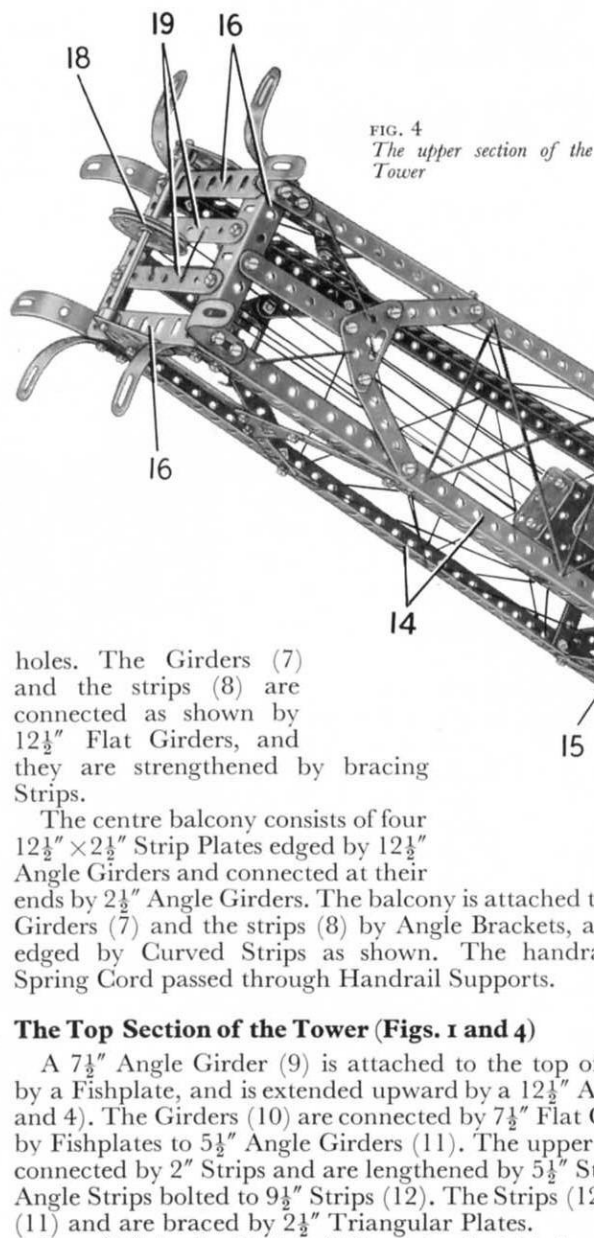
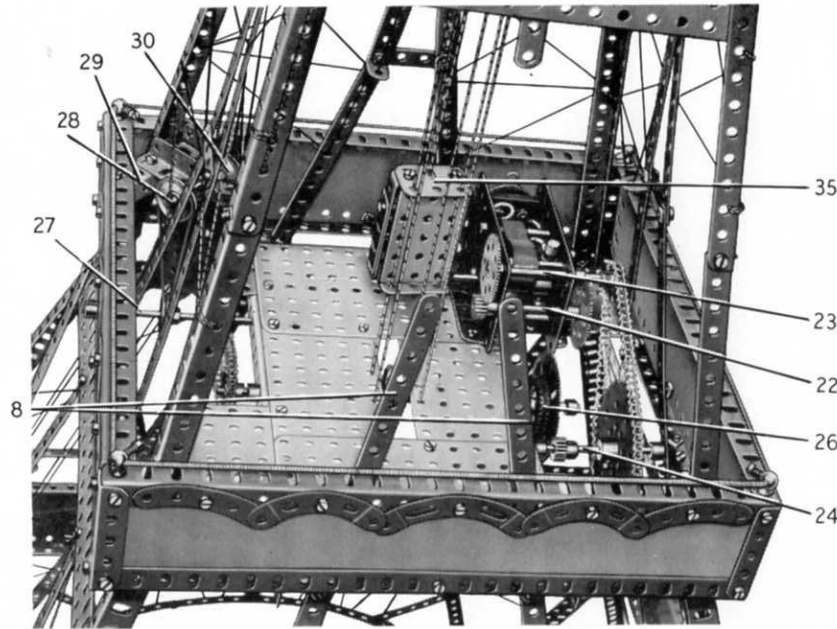
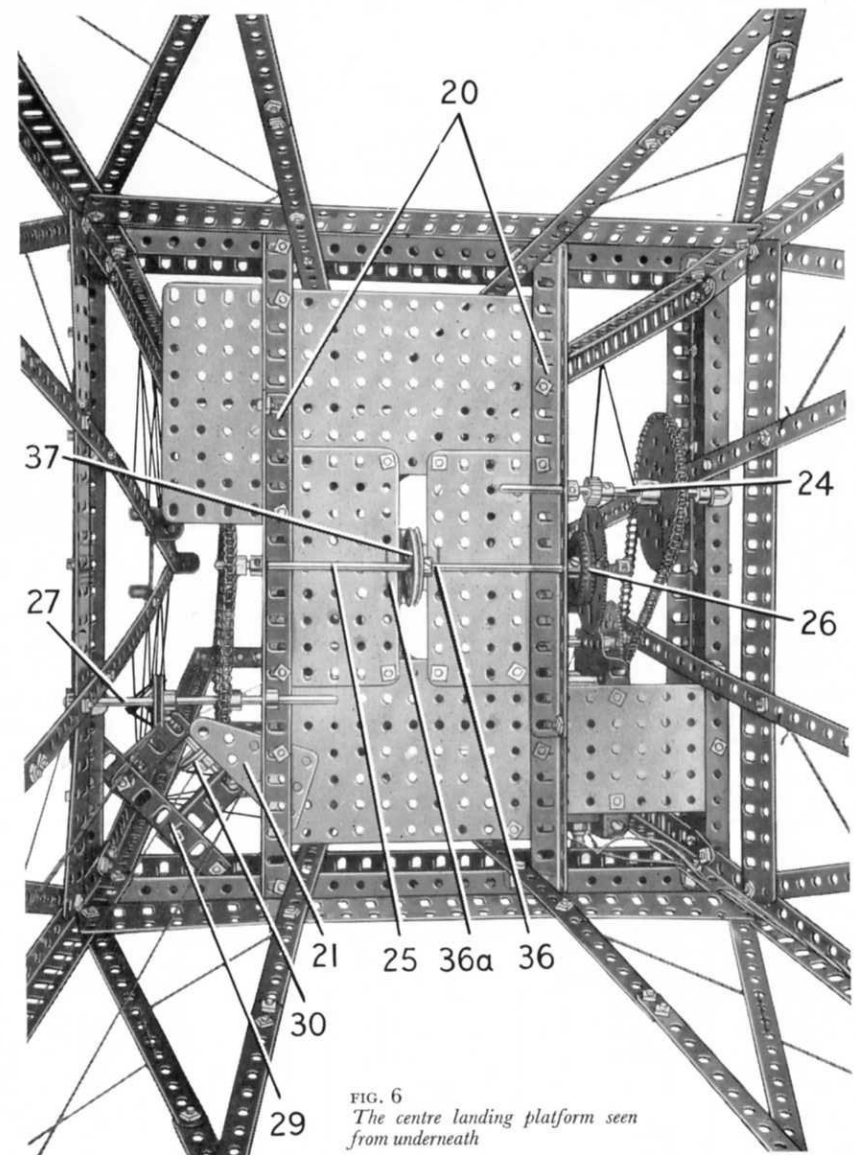

FIG. 4
FIG. 5
FIG. 6
The top balcony consists of four  $4\frac{1}{2} \times 2\frac{1}{2}$ " Flexible Plates each edged by a  $4\frac{1}{2}$ " Strip and a  $4\frac{1}{2}$ " Angle Girder (Fig. 3), and four  $2\frac{1}{2} \times 1\frac{1}{2}$ " Flexible Plates strengthened by  $1\frac{1}{2}$ " Strips and  $1\frac{1}{2}$ " Angle Girders. The  $4\frac{1}{2}$ " and the  $1\frac{1}{2}$ " Angle Girders are bolted together at their ends, and the top corners of the Flexible Plates are connected by Obtuse Angle Brackets. The balcony is supported by eight Formed Slotted Strips fixed to the Girders (16) (Fig. 4).
#### **The Centre Landing Platform and Operating Mechanism (Figs. 5, 6 and 7)**
Two built-up girders (20) (Fig. 6) are bolted underneath the centre balcony and to them are bolted Flat Plates as shown in Figs. 5 and 6. These Plates comprise two 5½" × 3½" Flat Plates and four 4½" × 2½" Flat Plates. A 2½" × 1½" Triangular Flexible Plate (21) is arranged as shown at one corner of the platform.
An E15R Electric Motor is bolted to the platform and a 7/16" diameter Pinion on its armature shaft drives a 60-tooth Gear on a 2½" Rod (22) (Fig. 5). A ½" Pinion on this Rod engages a 57-tooth Gear on a 3½" Rod (23), which carries also a ¾" Sprocket. This Sprocket is connected by Chain to a 3" Sprocket on a Rod (24) mounted in one of the girders (20) and in an Angle Bracket bolted underneath the balcony. A ½" Pinion on Rod (24) drives a 2½" Gear that is loosely mounted on a 6½" Rod (25). A Compression Spring is placed on this Rod between the Gear and a Collar, and it forces the Gear against a Motor Tyre (26) on a 1" Pulley fixed on the Rod. This arrangement forms a
A 1½" Sprocket on Rod (25) is connected by Chain to a ¾" Sprocket on a 5" Rod (27) (Fig. 6). This Rod is mounted in one of the girders (20) and in an Angle Bracket bolted underneath the balcony. A Driving Band is passed round
a 1" Pulley on Rod (27) and round a similar Pulley on a 2½" Rod (28) (Fig. 5). Rod (28) is supported in two 2" Angle Girders bolted to a built-up girder (29). The girder (29) consists of a 3" Angle Girder and a 1½" Angle Girder bolted together. A 1" Pulley (30) is fixed on Rod (28).
The two lifts that operate between the centre platform and the top of the tower are each made by bolting two 2½" × ½" Double Angle Strips between the flanges of a 2½" × 1½" Flanged Plate. A Girder Bracket is fixed to one Double Angle Strip, and a 1½" Flat Girder (35) (Fig. 5) is bolted to each flange of the Flanged Plate. The guide Cord for the lifts is tied to one of the Strips (19) (Fig. 4), is passed through the Flat Girders (35) of one lift, and through the second stage platform as indicated at (36) (Fig. 6). The Cord is passed through the Flat Girders (35) of the second lift and is taken through holes in the Strips (19) before it is again passed through the Flat Girders of the second lift. The Cord is then taken through the centre platform at (36a) (Fig. 6) and is tied to one of the Strips (19).
The operating Cord for these lifts is tied at one end to a Tension Spring placed inside one of the lifts. The Cord is passed through the top 1½" Flat Girder of this lift, round the Pulley (18) and through the top 1½" Flat Girder of the second lift, where it is tied to another Tension Spring. A length of Cord fastened to the lower end of this Spring is passed through the bottom 1½" Flat Girder, is taken round a 1½" Pulley (37) (Fig. 6) on Rod (25), through the bottom of the second lift and is tied to the lower end of the Spring in this lift.